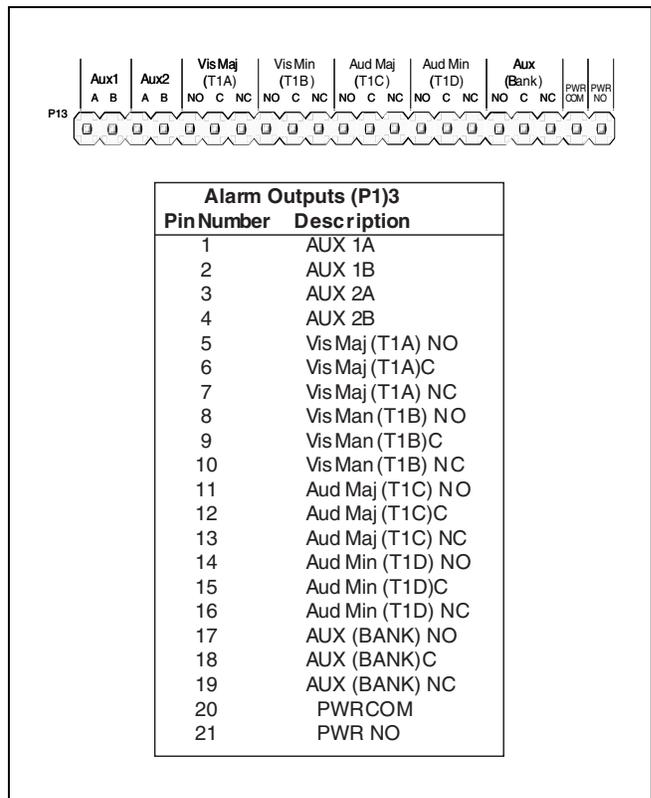

Figure 8. Alarm Contacts
Depending on the vendor equipment employed at the CO, wiring external alarms from the Total Access 1500 19-Inch Chassis will vary slightly. The important consideration is whether the external alarm equipment requires a Normally Open (NO) or Normally Closed (NC) circuit to pass an alarm. After determining what the CO equipment requires, connection can be made to the equipment from the Total Access 1500 19-Inch Chassis, see **Figure 8** for the location of alarm contacts.